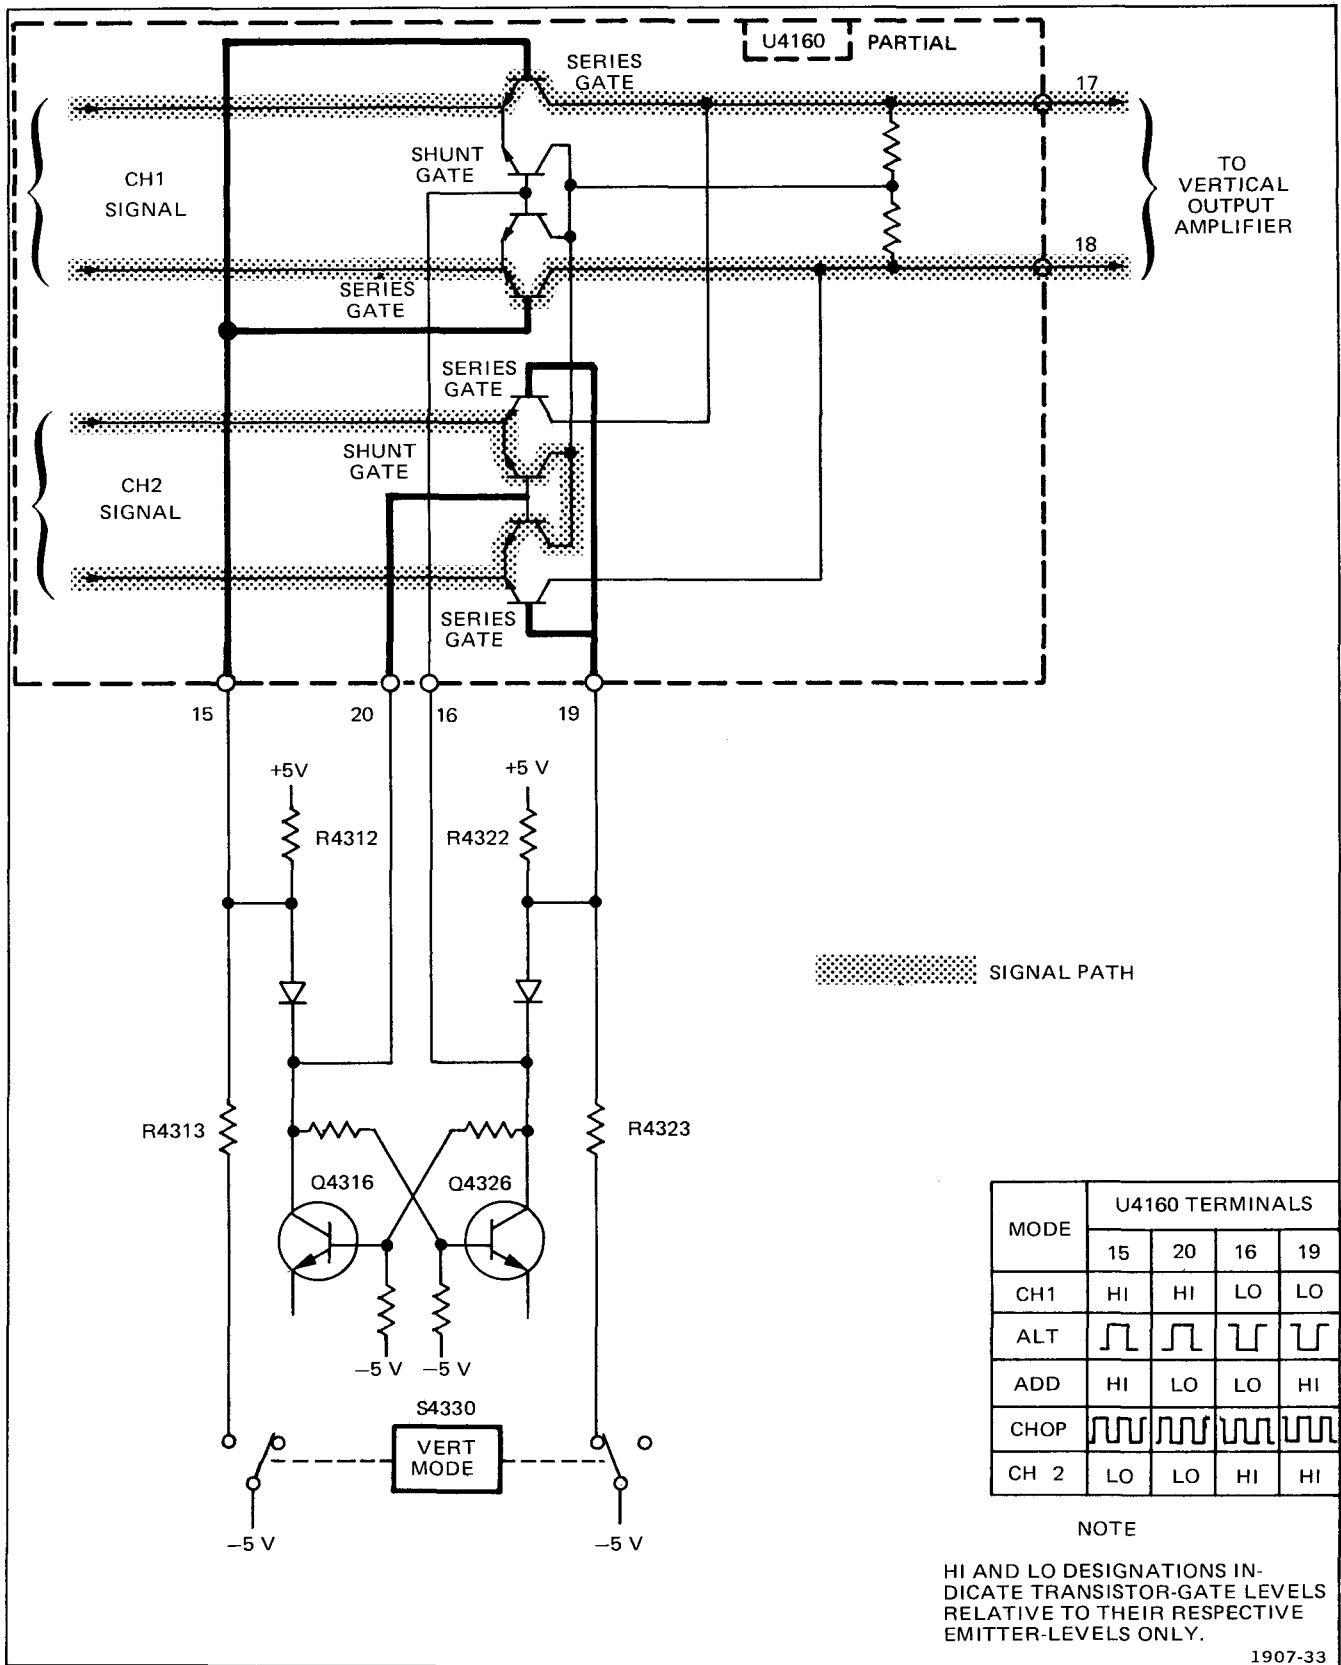

Fig. 4.4. Channel switching gates.
As shown in Fig. 4-4, there are series and shunt gates for each channel. The series gates, when on, pass the signal to Vertical Output Amplifier. The shunt gates short the + and – signal lines together when the series gates are off.
**CHANNEL 1 DISPLAY ONLY.** When the CH 1 pushbutton is pressed, –5 volts is applied to R4323. Resistors R4323 and R4322 form a divider which sets a LO at terminals 19 and 16. This turns off the Channel 2 series gates and shorts the + and – signal lines together through the shunt gate. See Fig. 4-4.